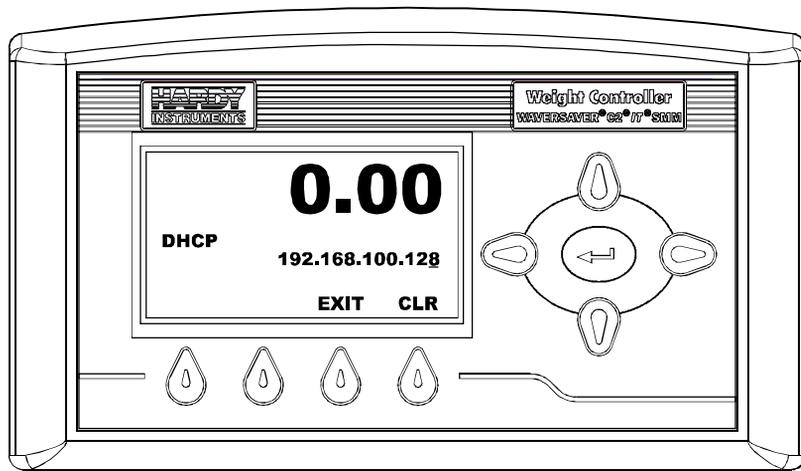

FIG. 114 DHCP MENU/DISPLAYING COMPLETE ADDRESS
- Step 2. Press the Enter button. The DHCP Menu appears with the complete IP address. (See Fig. 114)